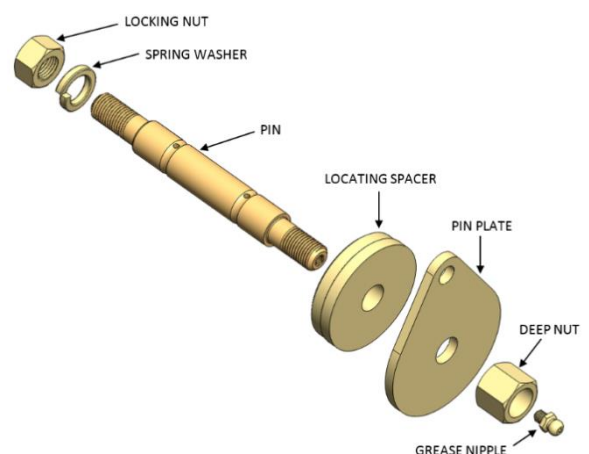
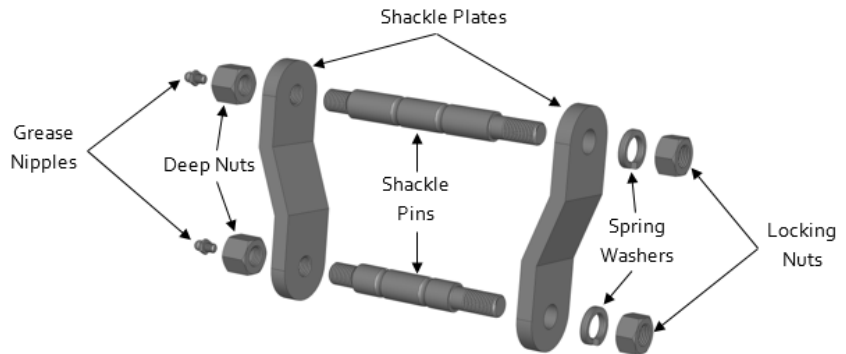

Figure 1: Diagram of front fixed pin
Figure 3: Diagram of rear swing shackle
- Screw the grease nipples into ends of the pins and firmly tighten (see figure 1). **DO NOT** over tighten grease nipple as this will damage the thread;
- Place the locating spacer (step down faces vehicle) and pin plate on the pin as per figure 1;
- Screw and lightly tighten the deep nut on the pin (figure 1);
- Screw and tighten the shackle pins into the threaded holes in the shackle plates as per figure 3;
- Over the grease nipples, screw the deep nuts and only lightly finger tighten (figure 3);
- Re-install leaf springs as per factory service manual with new SuperPro swing shackle and fixed pin hardware and assemble as per figure 1 and figure 3 – do not fully tighten nuts;